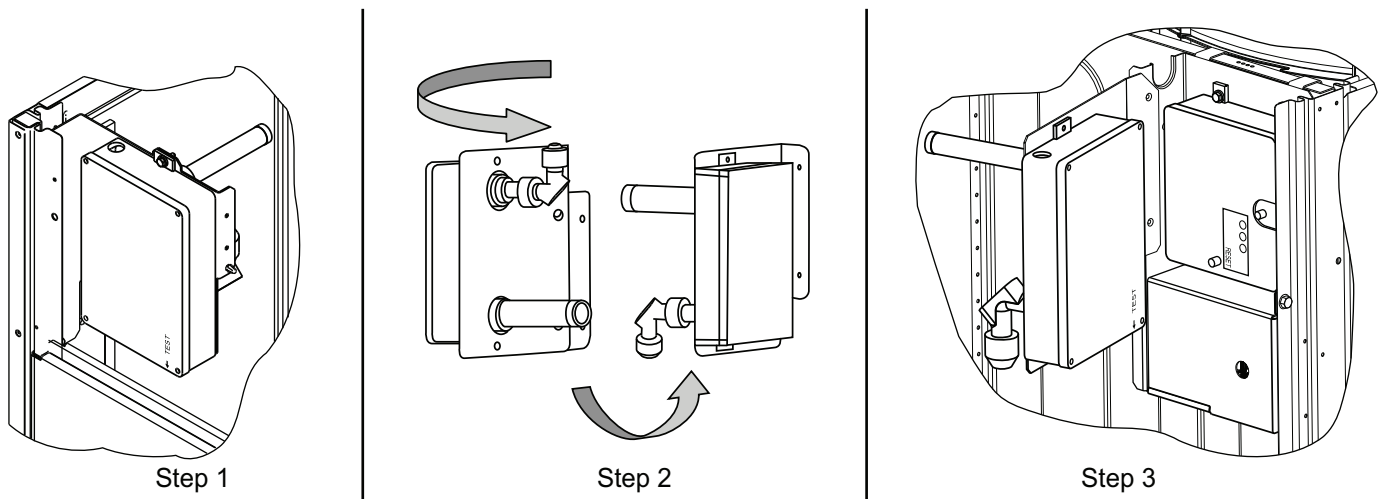

Fig. 66 — Completing Installation of Return Air Smoke Sensor
1. Unscrew the 2 screws holding the return-air smoke detector assembly. See Fig. 66, Step 1. Save the screws.
2. Turn the assembly 90 degrees and then rotate end to end. Make sure that the elbow fitting is pointing down. See Fig. 66, Step 2.
3. Screw the sensor and detector plate into its operating position using screws from Step 1. See Fig. 66, Step 3.